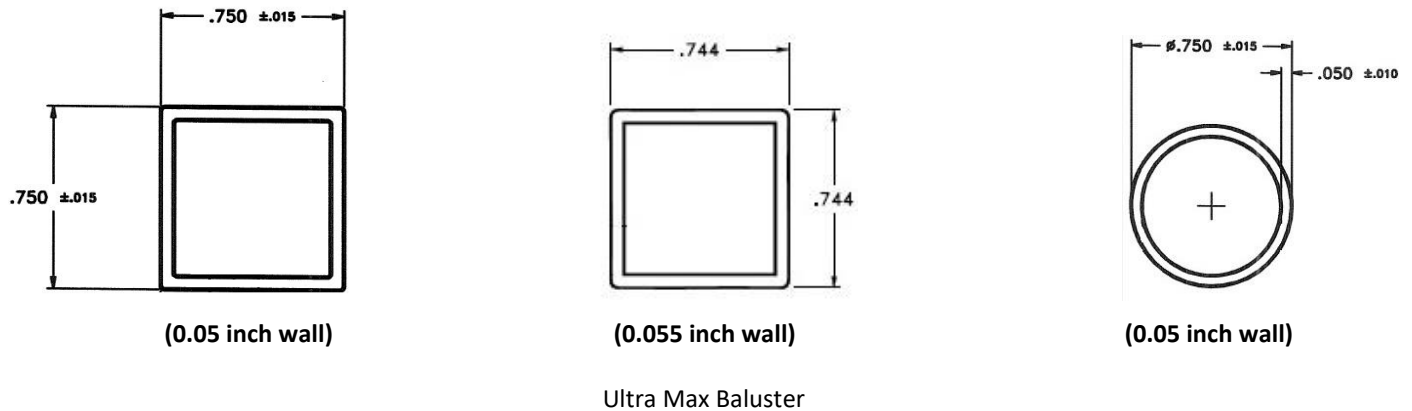

Figure 14 – Aluminum Balusters
3.6.1. The infill area for all styles utilize 6063-T6 aluminum balusters that are 3/4" square or 3/4" diameter round balusters. See Figure 14.